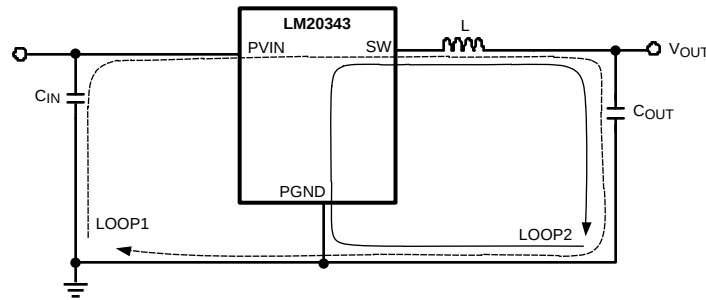

Figure 14. Schematic of LM20343 Highlighting Layout Sensitive Nodes
1. Minimize area of switched current loops. In a buck regulator there are two loops where currents are switched at high slew rates. The first loop starts from the input capacitor, to the regulator VIN pin, to the regulator SW pin, to the inductor then out to the output capacitor and load. The second loop starts from the output capacitor ground, to the regulator GND pins, to the inductor and then out to the load (see Figure 14). To minimize both loop areas the input capacitor should be placed as close as possible to the VIN pin. Grounding for both the input and output capacitor should consist of a small localized top side plane that connects to GND and the exposed pad (EP). The inductor should be placed as close as possible to the SW pin and output capacitor.